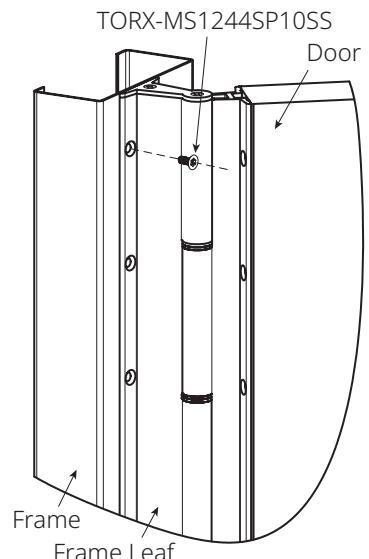

Fig. 5
2. Attaching hinge to frame (Fig 5):
Install screws to attached hinge to frame using T-25 driver (Fig. 5).